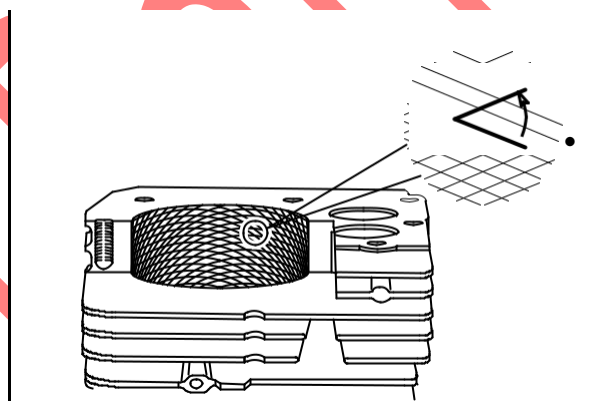

Fig. 4
Finishing stones are used after the cylinder bore has been resized to within **0.0015" (0.04 mm)** of the desired size or when reconditioning a cylinder bore. The finishing stones will produce the correct crosshatch finish necessary for proper lubrication. The correct crosshatch angle is approximately **45°** (1), **Fig. 4**.